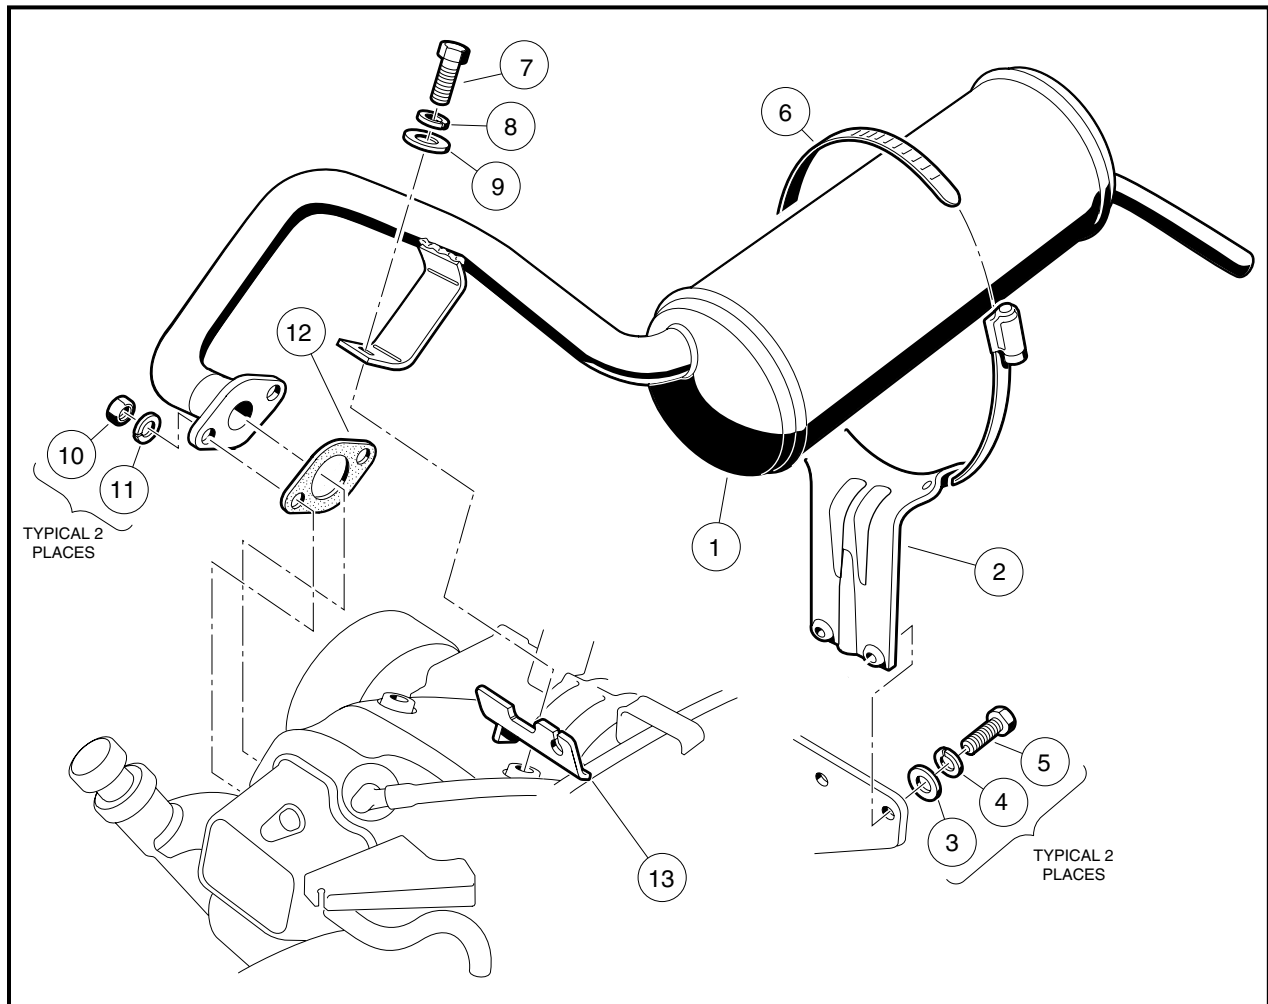
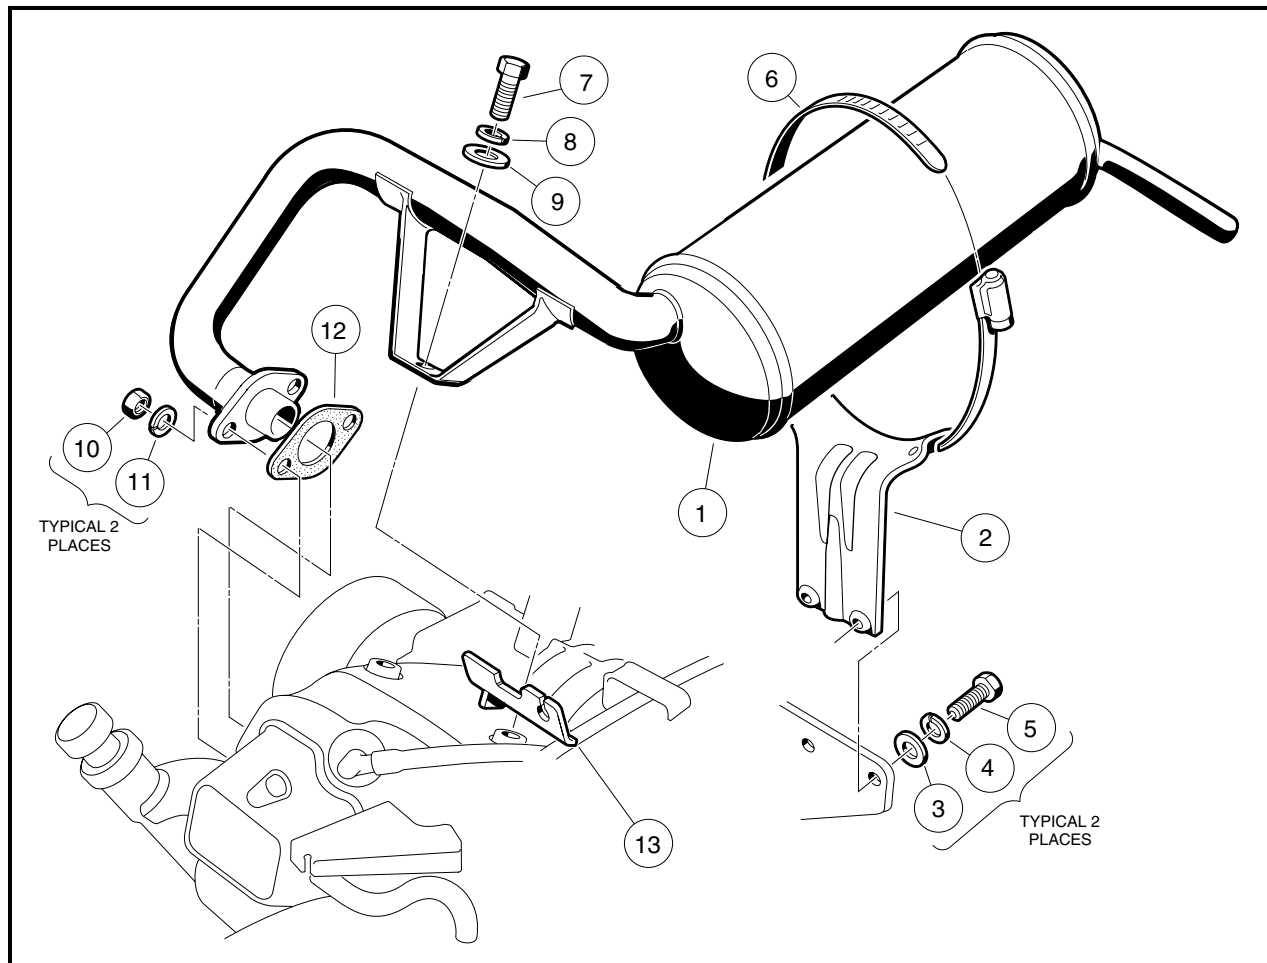

Figure 15-1 Exhaust System – FE400 Engine
Figure 15-2 Exhaust System – FE350 Engine
5. Remove the hex nuts (10) and lock washers (11) from the manifold (**Figure 15-1, Page 15-3 or Figure 15-2, Page 15-4**).
6. Remove the hex-head cap screw (7), lock washer (8), and flat washer (9) from mounting bracket. Retain the governor cable bracket (13).
7. Remove bolts (5), lock washers (4), and flat washers (3) from the muffler clamp bracket (2).
8. Remove the muffler (1) and clamp bracket assembly (2) from the vehicle.
9. Remove the muffler clamp (6) from the muffler clamp bracket (2).
Any time the muffler is removed from the vehicle, install a new muffler clamp (6) (CCI P/N 1017689) and muffler gasket (12) (**Figure 15-1, Page 15-3** or **Figure 15-2, Page 15-4**).
1. Use the muffler clamp (6) to attach the muffler bracket (2) to the muffler as shown (**Figure 15-1, Page 15-3** or **Figure 15-2, Page 15-4**). Leave the muffler clamp loose enough to allow the muffler to move as the mounting hardware is tightened. If installing a new muffler, use the old muffler as a positioning guide for the clamp and bracket.
2. Place a new gasket (12) on the exhaust manifold mounting flange as shown.
3. Position the muffler and bracket assembly, and the governor cable bracket (13) and install the bolts (5), lock washers (4), and flat washers (3). Thread the bolts in only enough to support the muffler and bracket assembly (**Figure 15-1, Page 15-3** or **Figure 15-2, Page 15-4**).
4. Install the lock washers (11) and hex nuts (10) on the manifold bolts. Tighten the nuts finger-tight.
5. Install the hex-head cap screw (7), lock washer (8), and flat washer (9). Tighten the cap screw finger-tight.